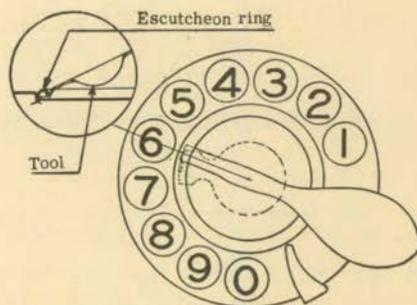

Fig. 6. Escutcheon ring unlocked.
- (b) Press the tool tip down and also against the side of the locking lever (concealed under the escutcheon assembly). Press the lever counter-clockwise until the tool is opposite digit "6" (see Fig. 6). The escutcheon ring is now unlocked. With the tip of the tool still inserted, lift out the escutcheon ring to remove the entire escutcheon assembly.